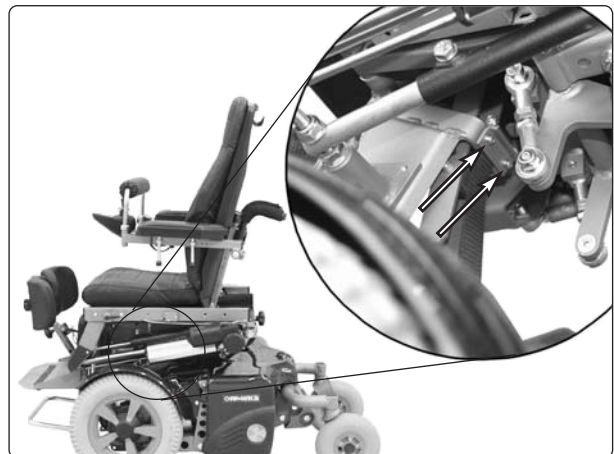

Fig. 34. The lock for the leg rest's belt is located on the rear of the leg rest.
2. Loosen the two screws holding the locking jamb to the leg rest's belt. The locking jamb is located behind the leg rest under the middle of the seat, see Fig. 34.